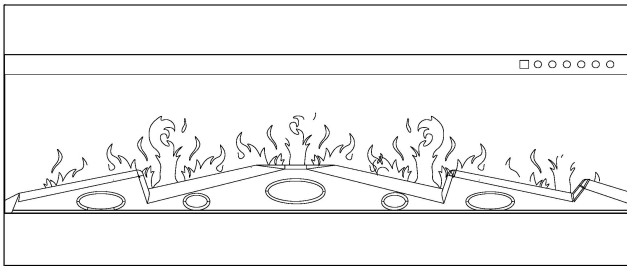

Figure 1
C. Place unit face down on a soft, non abrasive surface. Remove the bracket from the back of the unit by removing the screws, refer to Figure 1.
- B. If your fireplace come with log-set, take the log-set out of the package and put it to the fireplace media slot . **Figure 1.**